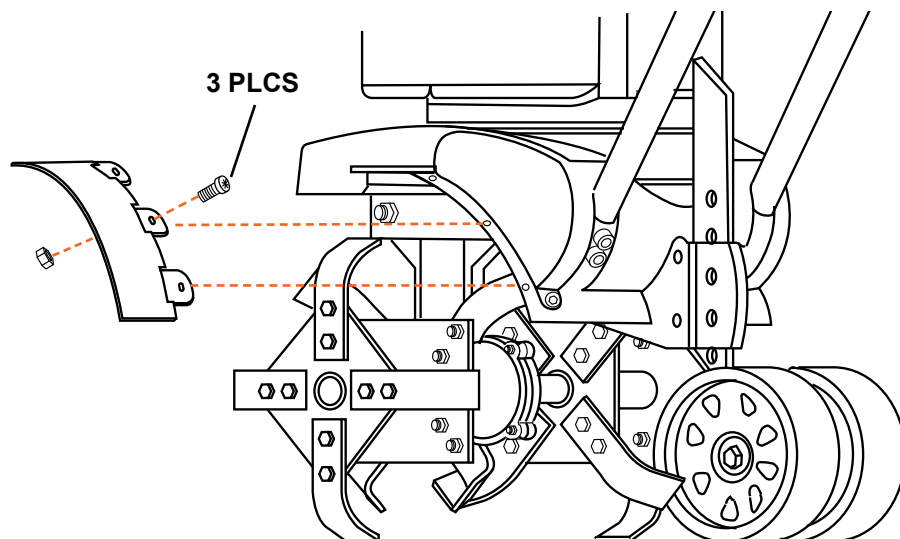

Figure 8
1. There are left and right hand Safety Shields. Each has three holes drilled through a mounting tab. Align the mounting tab with the holes drilled in the tiller and secure with a star socket cap screw through the top and a hex nut underneath the safety shield in three places on each side (see Figure 8).